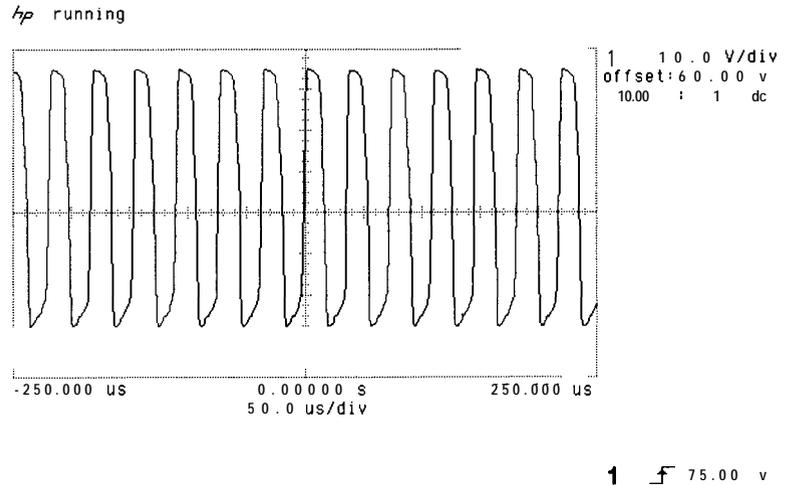

Figure 3-9. CRT Cut-Off Voltage
34. On the oscilloscope, adjust the channel 1 offset voltage as necessary to measure the peak-to-peak CRT cut-off voltage, V_{co} , at A1A3TP5. See Figure 3-9. This peak-to-peak voltage should be between 45-75 V_{p-p} . Note this voltage for use in step 39.